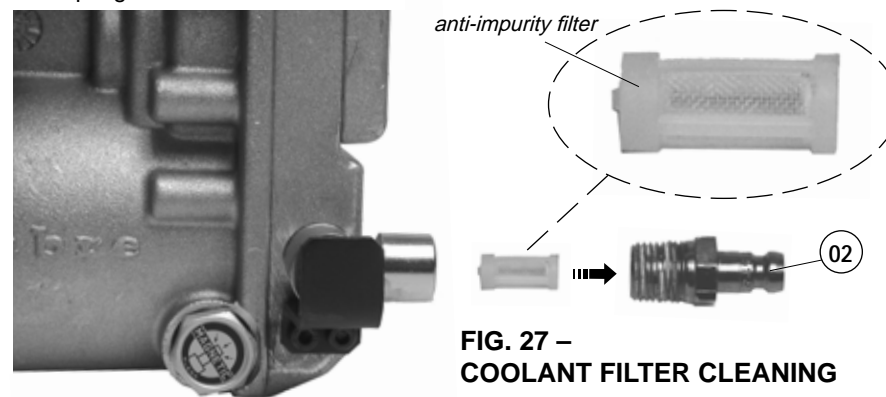

FIG. 27 – COOLANT FILTER CLEANING
### 11.1.5) Coolant filter cleaning (Ref. to Fig. 27)
- Using a 14 mm key, unscrew the coupling (02).
- Reassemble the filter into the coupling (02) as shown in the Fig. 27 and fully tighten the coupling.